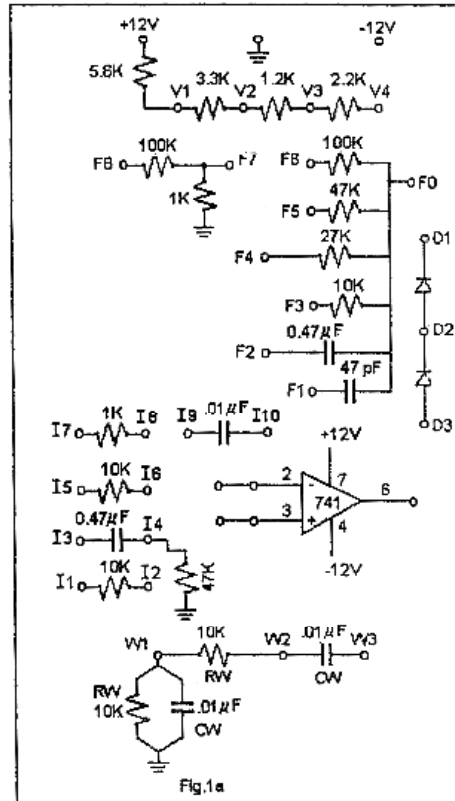
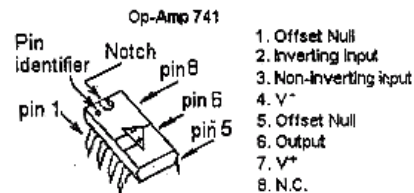

Fig.1a
Fig.1b
I. Trace the circuit in the board. Locate the components of Fig.1a. Figure 1b shows the op-amp IC 741 pin configuration. The board is powered by a bipolar supply (+12 and -12 V versus ground). Near the top of the board is a voltage divider. If terminal V4 is grounded then we have the approximate no load voltages $V_1=+6.5V$, $V_2=+3.3V$ and $V_3=2.2V$. If instead -12V is applied to terminal V4 then we have approximately: $V_1=+1.0V$, $V_2=-5.4V$ and $V_3=-7.7V$.